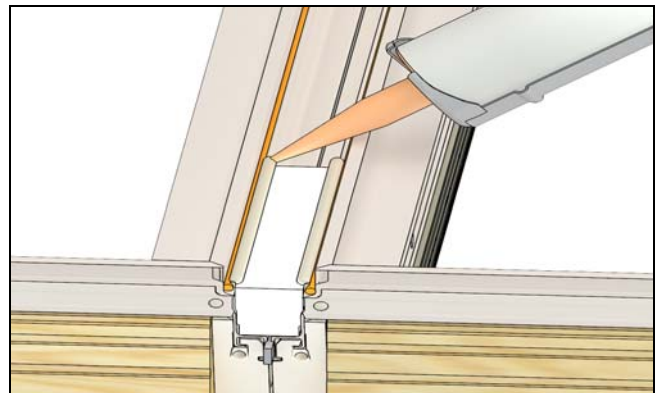

Figure 12
13. Apply a bead of sealant along both sides of foam filler. Sealant should run the entire length both blocks on either side. Using a wood block and hammer, carefully pound mull cap into place making sure that it does not extend into horizontal accessory kerf. See Figure 12.